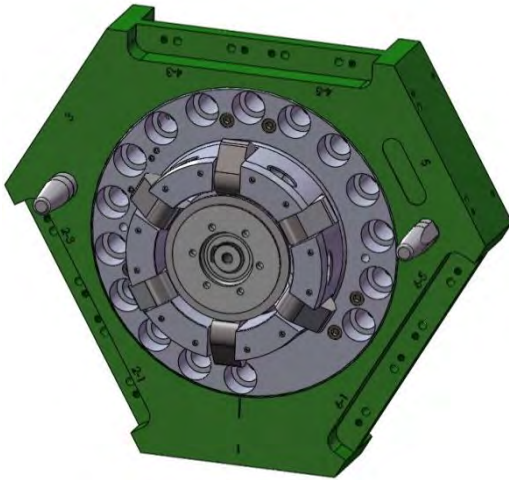

Figure 6.1-1. Robot Adaptor Coupled (Cams Extended)
2. Turn on supply air to the control valve and verify that the cams move to the extended position (Figure 6.1-1). If using a single solenoid, spring return, 4-way valve, this will verify that it is plumbed correctly.